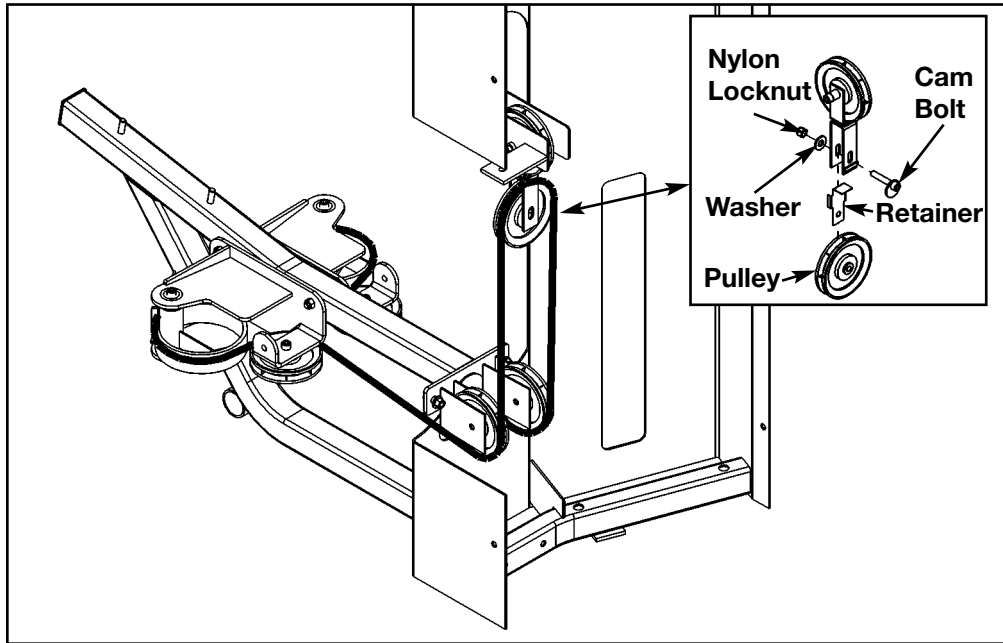

Figure 2
**3. Check cam cable** (see step 3A and Figure 2).
**A.** Adjust cam bolt (if necessary) to remove excess slack. See Figure 2.